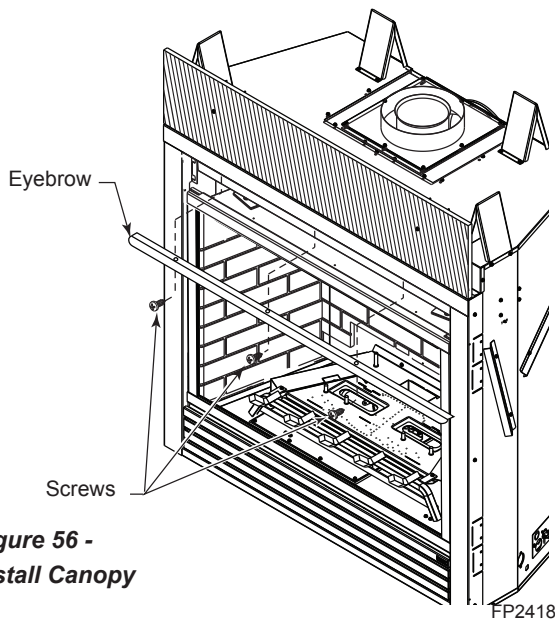

Figure 56 -
2. Attach canopy to underside of top outer shell with three (3) screws provided. *Figure 56*